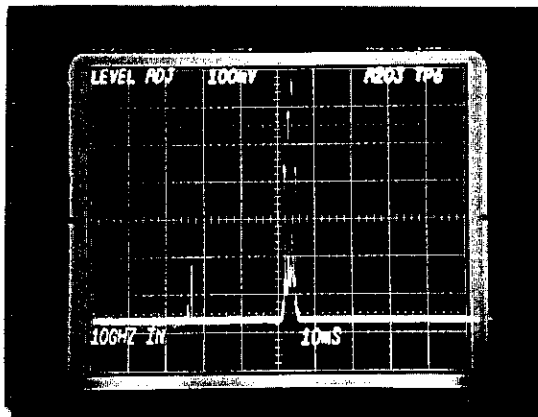

FIGURE 6-7
(2) Ground A203TP1.
(3) Apply a 1.5 GHz signal at +7 dBm; observe the Video Detector signal.
(4) Slowly tune the frequency upward. At some frequencies, a spurious output corresponding to approximately one half the input frequency will be visible.
(5) As the frequency is varied from 1.5 to 18 GHz, adjust A202R69 so no spurious signal has an amplitude in excess of 290 mV. Refer to Figure 6-7 for a typical display. (Vary scope time base as necessary to keep the display on the screen.)